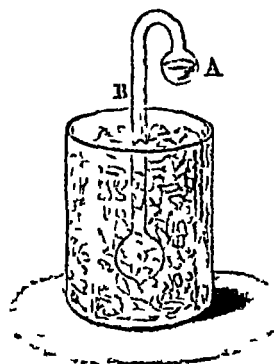

FIG 27
**The Cryophorus**—A bent glass tube is provided with a bulb at each end (fig 27) Water is placed in one bulb and is boiled until all air is expelled from the apparatus, the small opening that has been left is then sealed, the cryophorus therefore contains only water and water vapour.